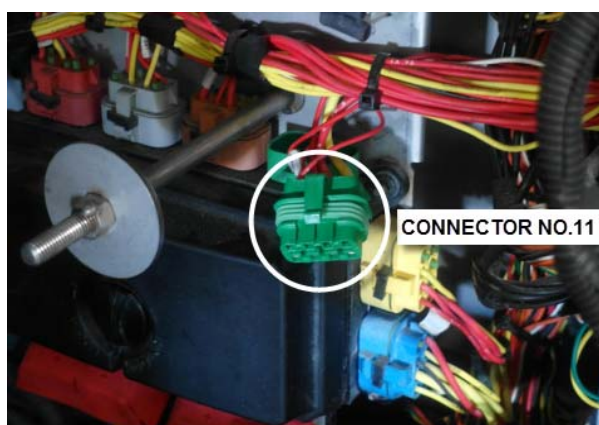
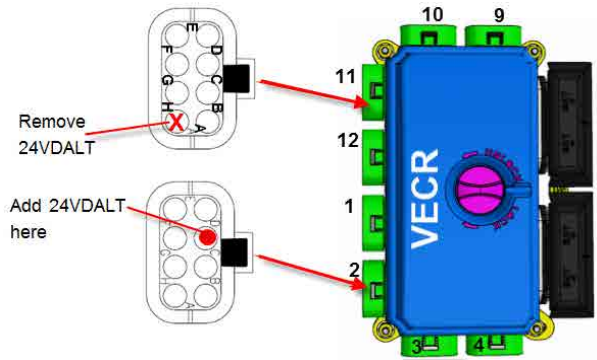

FIGURE 11
FIGURE 14
3. Using an extractor tool or a small flat blade screwdriver, remove wire 24VDALT from cavity H of connector no.11 (FIGURE 11 to FIGURE 14).